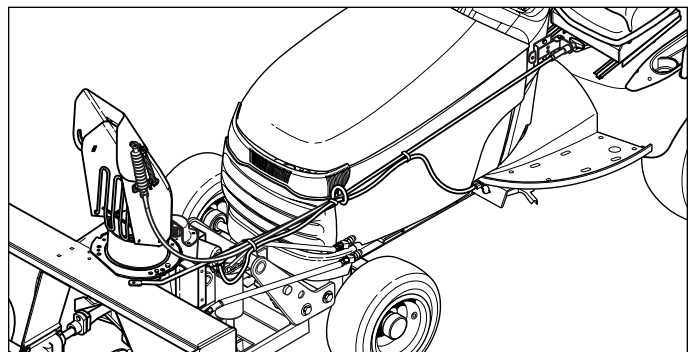

Figure 18. Cable and Wire Routing
2. Route the remote deflector control cable and spout rotator motor wires through the cable guide (Figure 18).
1. Secure the spout rotator wire harness to the remote deflector control cable as shown in Figure 18 using three cable ties.